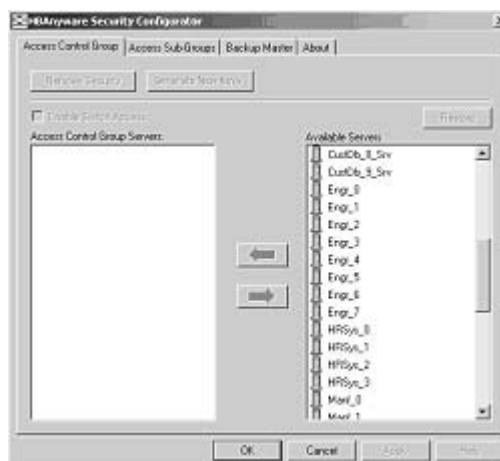

Figure 47: HBAnyware Security Configurator, Access Control Group Tab - No ACG Servers
2. Click **OK**. The Access Control Group tab appears (Figure 47).